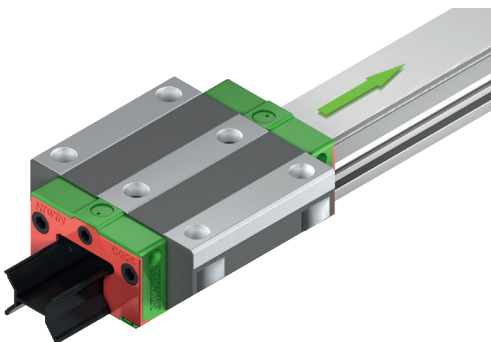

Fig. 5.23 Pushing the block on to the profile rail.
- ▶ Avoid deformations or creases of the cover strip as shown in Fig. 5.23!